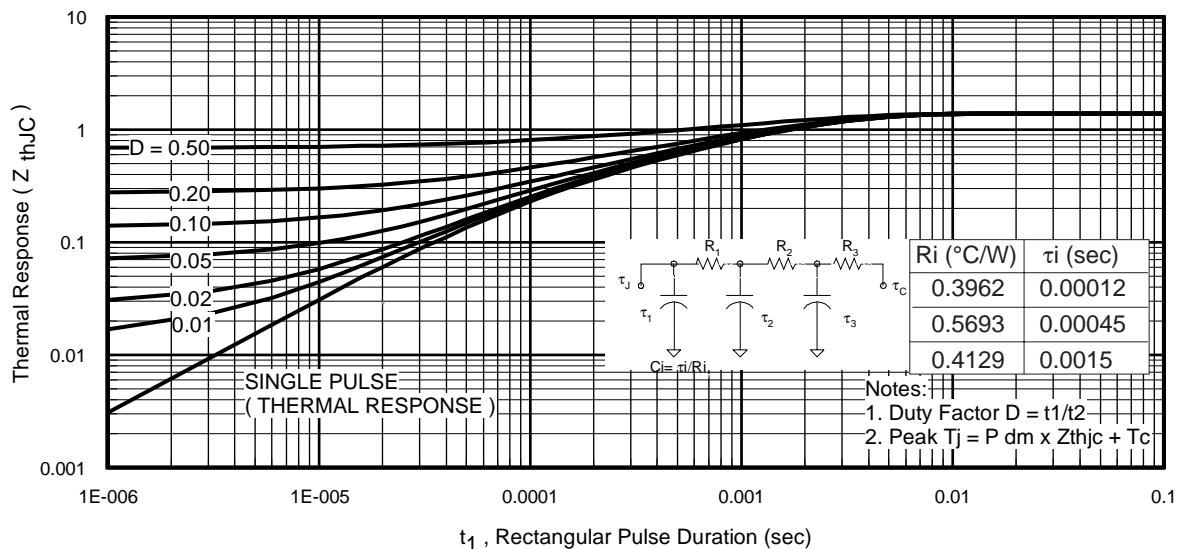
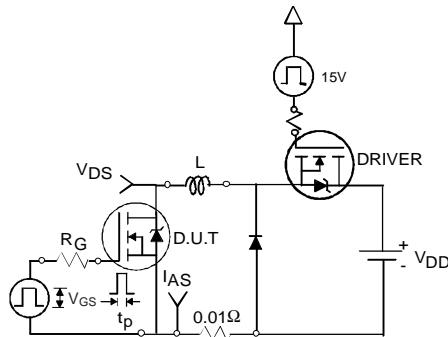

Fig 11. Maximum Effective Transient Thermal Impedance, Junction-to-Case
Fig 12a. Unclamped Inductive Test Circuit
3. Equation below based on circuit and waveforms shown in Figures 12a, 12b.
$Z_{thJC}(D, t_{av})$ = Transient thermal resistance, see figure 11)
- ① Repetitive rating; pulse width limited by max. junction temperature. (See fig. 11).
- ② Limited by $T_{J\max}$, starting $T_J = 25^\circ\text{C}$, $L = 0.08\text{mH}$ $R_G = 25\Omega$, $I_{AS} = 36\text{A}$, $V_{GS} = 10\text{V}$. Part not recommended for use above this value.
- ③ Pulse width $\leq 1.0\text{ms}$; duty cycle $\leq 2\%$.
- ④ $C_{oss\ eff}$ is a fixed capacitance that gives the same charging time as C_{oss} while V_{DS} is rising from 0 to 80% V_{DSS} .
- ⑤ Limited by $T_{J\max}$, see Fig.12a, 12b, 15, 16 for typical repetitive avalanche performance.
- ⑥ This value determined from sample failure population. 100% tested to this value in production.
- ⑦ When mounted on 1" square PCB (FR-4 or G-10 Material). For recommended footprint and soldering techniques refer to application note #AN-994
- ⑧ R_θ is measured at T_J approximately 90°C